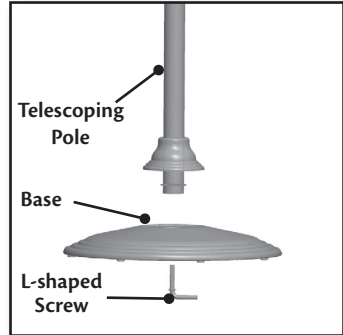

Figure 7
2. Remove the L-shaped screw from the telescoping pole by turning it counter clockwise. Figure 7.
3. Insert the telescoping pole into the top of the base. Install the L-shaped screw into the threaded hole in the bottom of the pole to secure the pole to the base. Figure 7.